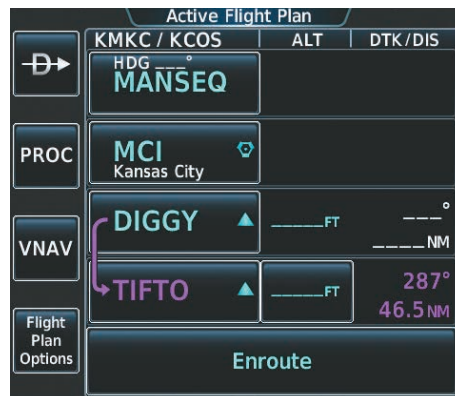

Figure 5-158 Begin Adding V4 to the Active Flight Plan
- a) From **Home** on the Touchscreen Controller, touch the **Flight Plan** Button to display the Active Flight Plan Screen as shown in Figure 5-158.